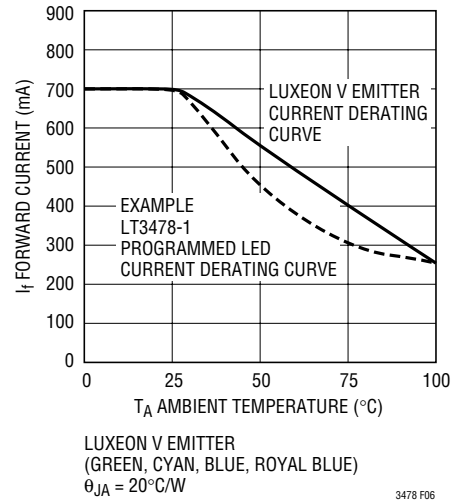
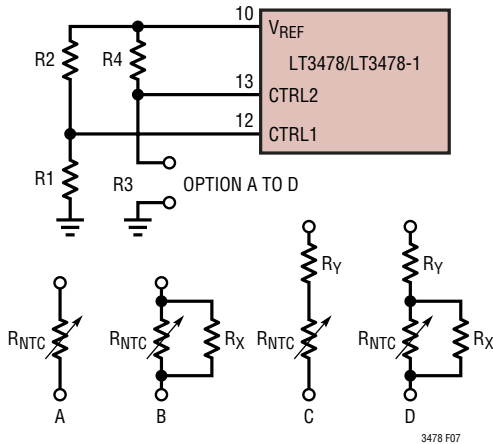
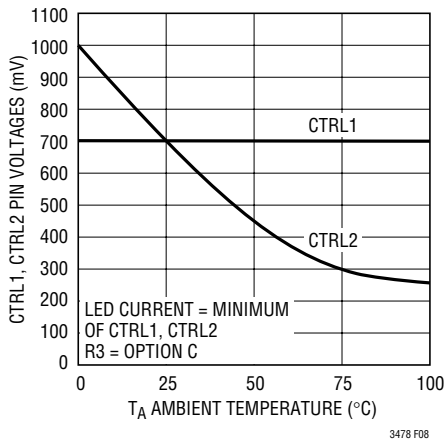

Figure 6. LED Current Derating Curve vs Ambient Temperature
Figure 7. Programming LED Current Derating Curve vs Temperature (R_{NTC} Located on LEDs PCB)
Figure 8. CTRL1, 2 Programmed Voltages vs Temperature
maximum allowed LED current versus temperature to warn against exceeding this current limit and damaging the LED (Figure 6).
Without the ability to back off LED current as temperature increases, many LED drivers are limited to driving the LED(s) at only 50% or less of their maximum rated currents. This limitation requires more LEDs to obtain the intended brightness for the application. The LT3478/LT3478-1 allow the output LED(s) to be programmed for maximum allowable current while still protecting the LED(s) from excessive currents at high temperature. This is achieved by programming a voltage at the CTRL2 pin with a negative temperature coefficient using a resistor divider with temperature dependent resistance (Figures 7 and 8). CTRL2 voltage is programmed higher than CTRL1 voltage. This allows initial LED current to be defined by CTRL1. As temperature increases, CTRL2 voltage will fall below CTRL1 voltage causing LED currents to be controlled by CTRL2 pin voltage. The choice of resistor ratios and use of temperature dependent resistance in the divider for the CTRL2 pin will define the LED current curve breakpoint and slope versus temperature (Figure 8).
CTRL2 to achieve the desired CTRL2 curve vs temperature. The current derating curve shown in Figure 6 uses the resistor network shown in option C of Figure 7.
If calculation of CTRL2 voltage at various temperatures gives a downward slope that is too strong, alternative resistor networks can be chosen (B, C, D in Figure 7) which use temperature independent resistance to reduce the effects of the NTC resistor over temperature.
The following example uses hand calculations to derive the resistor values required for CTRL1 and CTRL2 pin voltages to achieve a given LED current derating curve. The resistor values obtained using the Murata simulation tool are also provided and were used to create the derating curve shown in Figure 6. The simulation tool illustrates the non-linear nature of the NTC resistor temperature coefficient at temperatures exceeding 50°C ambient. In addition, the resistor divider technique using an NTC resistor to derive CTRL2 voltage inherently has a flattening characteristic (reduced downward slope) at higher temperatures. To avoid LED current exceeding a maximum
Step 2: Choose resistor network option A (Figure 7) and CTRL2 = CTRL1 for 25°C breakpoint
Step 4: Calculate the resistor value required for R_Y in resistor network option (c) (Figure 7) to provide an I_{LED} slope of $-200\text{mA}/25^\circ\text{C}$ between 25°C and 50°C ambient temperature.
Using the Murata simulation tool for the resistor network and values in the above example shows a CTRL2 voltage curve that flattens out as temperatures approach 100°C ambient. The final resistor network chosen for the derating curve in Figure 6 used option C network with $R4 = 19.3\text{k}$, $R_{NTC} = 22\text{k}$ (NCP15XW223JOSRC) and $R_Y = 3.01\text{k}$. Although the CTRL2 downward slope is greater than $-200\text{mA}/25^{\circ}\text{C}$ initially, the slope is required to avoid exceeding maximum allowed LED currents at high ambient temperatures (see Figure 6).